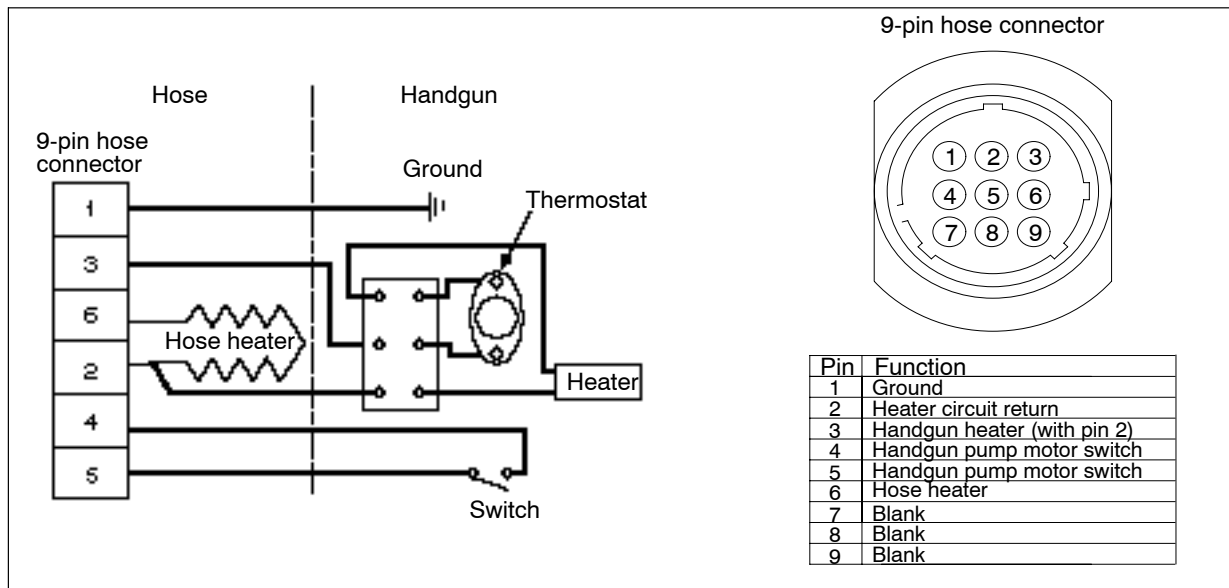

Figure 20 Wiring Diagram
1. Connect the hose electrically as shown in Figure 20.